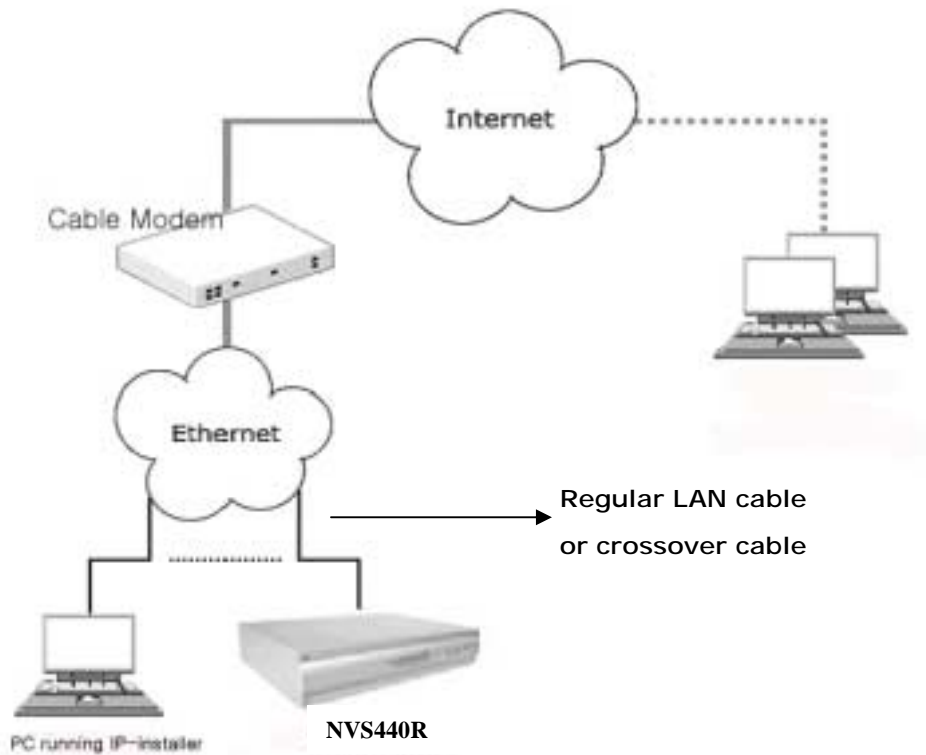

Figure 3-5 Connecting the NVS440R to a Cable Modem
3. Remove the crossover cable and connect the NVS440R to the network using standard LAN cable as shown in Figure 3-5. Check if you can receive video data when connecting to NVS440R using the viewer program.